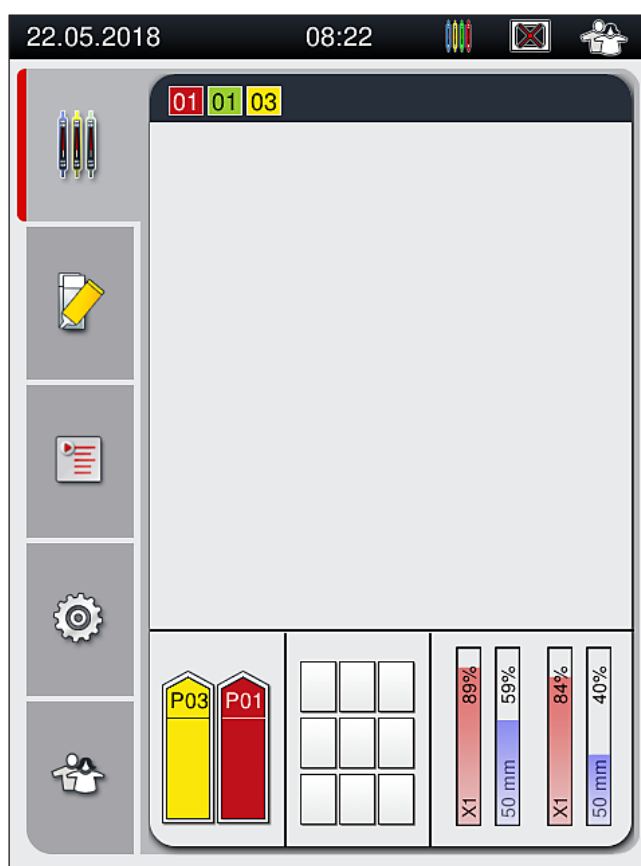

Fig. 74
7. The detected handle color is shown in the process status display (→ Fig. 74).